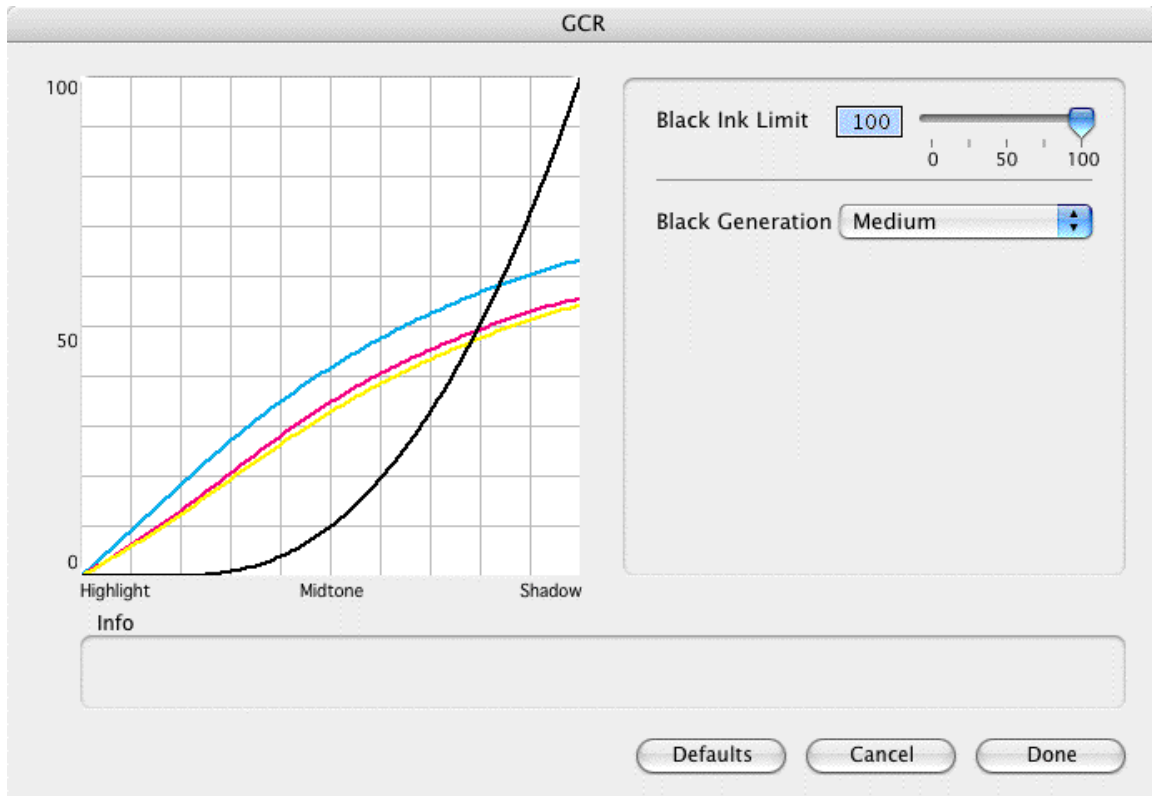

Figure 14. GCR Adjustment Dialog Box
3. Click **Adjust....** The GCR adjustment dialog box displays. See Figure 14.